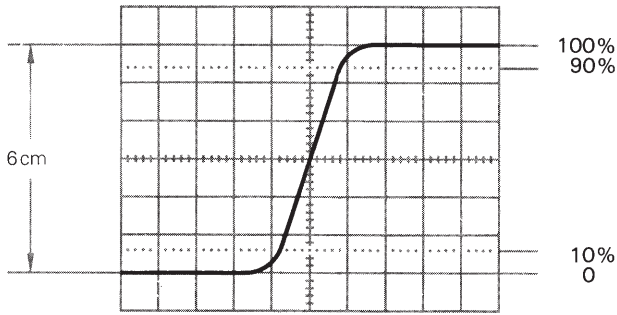

Fig. 18
This time is referred to as the rise time (or fall time) t_{tot} , and is normally measured between 10% and 90% of the pulse height. See Fig. 18 below. The 10% to 90% limit is used to ensure that transients, ramp-offs and bandwidth limitations do not influence the measuring accuracy.
The HM605 CRT’s internal graticule is especially calibrated and divided for rise time measurements. (See Fig. 18 below).
1. Adjust TIMEBASE controls until pulse is displayed as shown in Fig. 18 above. The X POS, X MAGN x10, and the sweep delay facility may have to be used.
3. Measure distance (time t_{tot}) between the two points at which trace crosses the dotted lines 2.4 cm above and below the centre line (See Fig. 18).